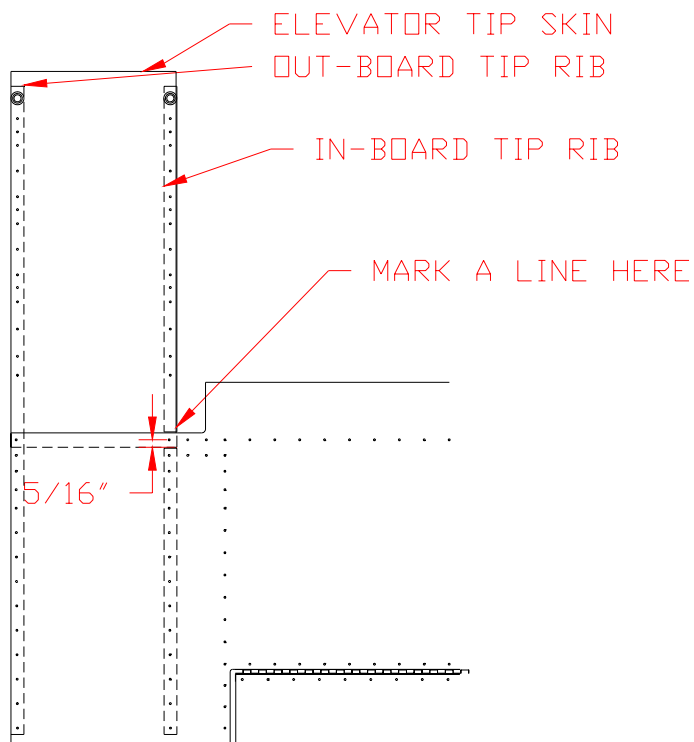

Figure 3.6.1
- 1) Position the Elevator Tip Skin (EL-408) to the Outboard Tip Rib and Inboard Tip Rib. Figure 3.6.1.
- 2) Drill #40 holes from the Elevator Tip Skin into the Tip Ribs keeping the ribs flush with the skin. Figure 3.6.1.